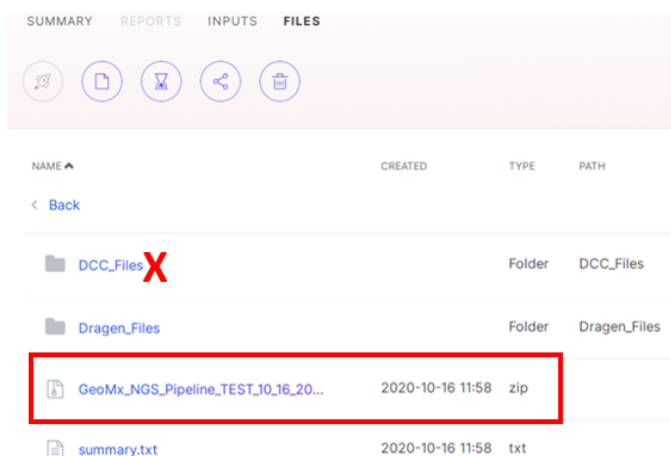

Figure 18: DCC.zip file output from GeoMx NGS Pipeline
3. Open the folder **GeoMx\_NGS\_Pipeline**. Download the DCC.zip output with the **name: GeoMx\_NGS\_Pipeline\_...** and **file type: zip** (Figure 18). (Despite its name, the folder "DCC\_Files" is not the zipped DCC output for download).